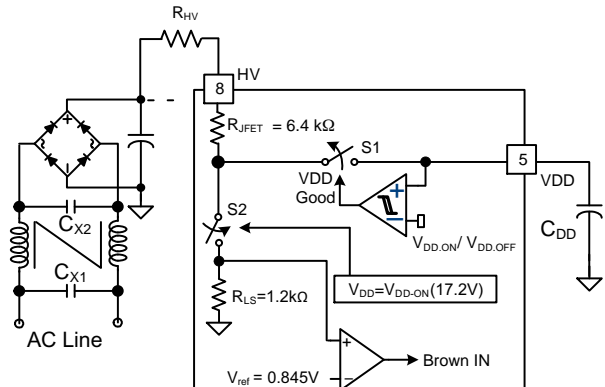
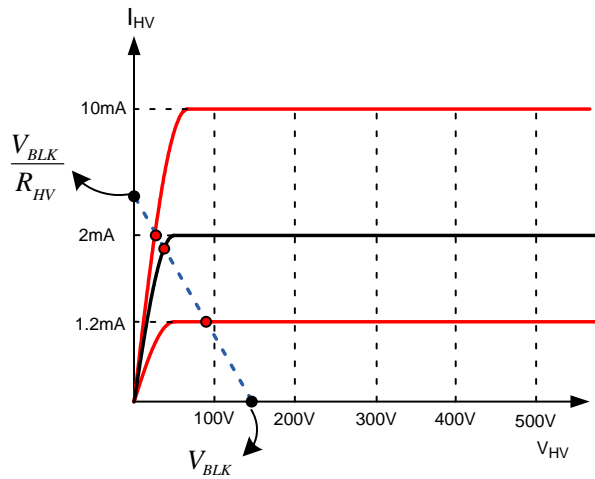

Figure 31. HV Startup Circuit
Figure 32. Characteristics of HV Pin
Figure 31 shows the high-voltage (HV) startup circuit. An internal JFET provides a high voltage current source, whose characteristics are shown in Figure 32. To improve reliability and surge immunity, it is typical to use a R_{HV} resistor between the HV pin and the bulk capacitor voltage. The actual current flowing into the HV pin at a given bulk capacitor voltage and startup resistor value is determined by the intersection point of characteristics I-V line and the load line as shown in Figure 32.
charge the hold-up capacitor, C_{VDD} , through R_{HV} . When the V_{DD} voltage reaches V_{DD-ON} , the sampling circuit shown in Figure 31 is turned on for t_{HV-det} (100 μs) to sample the bulk capacitor voltage. Voltage across R_{LS} is compared with reference which generates a signal to start switching. If brown-in condition is not detected within this time, switching does not start. Equation (9) can be used to program the brown-in of the system. If line voltage is lower than the programmed brown-in voltage, FAN604P goes in auto-restart mode.